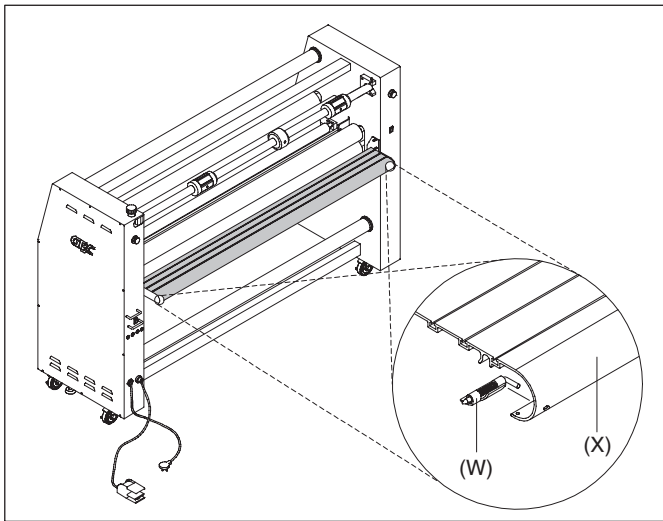

Fig 17
W.REAR TABLE LATCHES: (Figure 17) Located under the left and right sides of the rear table.
X. REAR TABLE: (Figure 17) Provides a working surface when operating the machine from the rear. This table may also be lowered when webbing for roll to roll applications. To lower, pull the left and right side rear table latches in and lower the rear table.